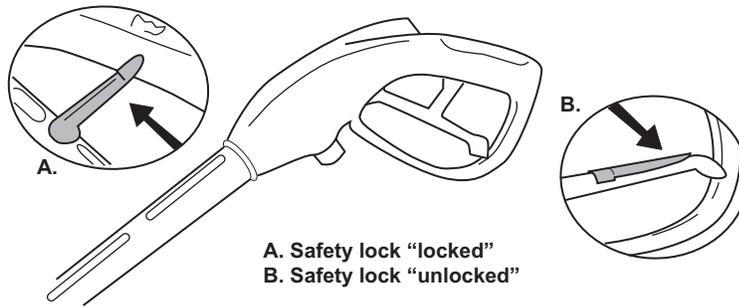

Fig. 3
3. Release gun safety if locked. (See Figure 3)